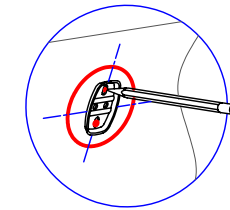

Fig. 2
- Step 2. Unscrew Slotted Set Screw at base and remove mounting plate. (Fig.2)
- Step 3. Locate mounting plate in the center of circle. Mark location of the mounting screw (Fig.2) and drill holes at the marked location.